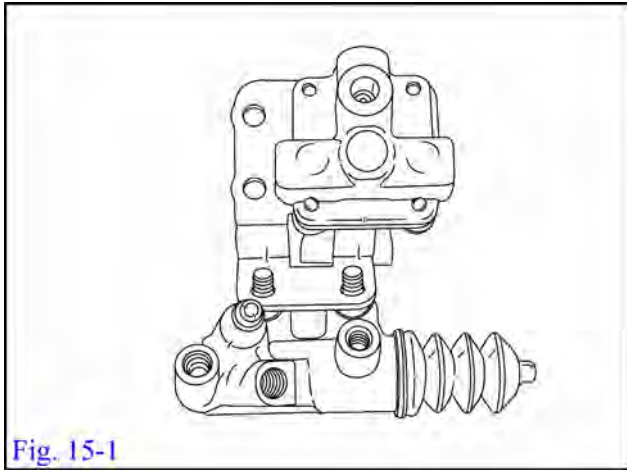

Fig. 15-1
- (a) Bolt the accumulator/TRD bracket assembly to the clutch slave studs, re-using the 2 nuts removed. **Torque to 16ft-lbs** (Fig. 15-1, shown out of vehicle for clarity only).